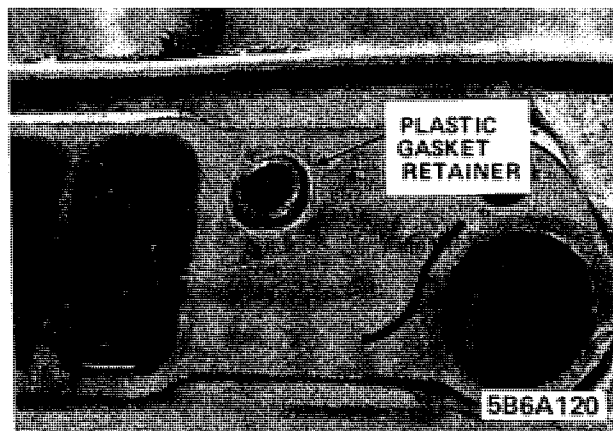

Figure 6A-120 - Intake Manifold Gasket Retainers
1. Install new gaskets on cylinder heads, positioning them with plastic retainers. See Figure 6A-120.